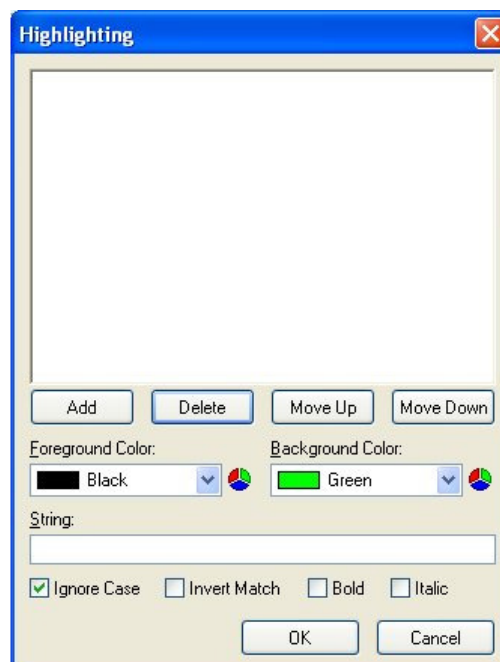

Figure 33. Highlighting Window.
2. The window shown in Figure 33.